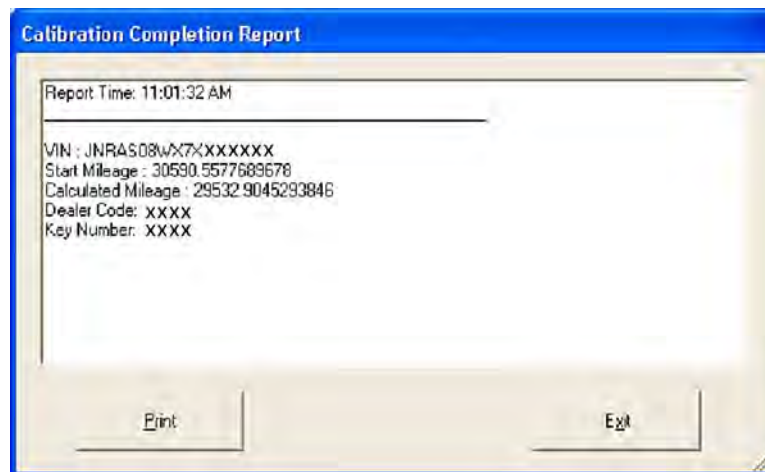

Figure 1m
24. After waiting 2 minutes, the "Calibration Completion Report" will display (Figure 1m).